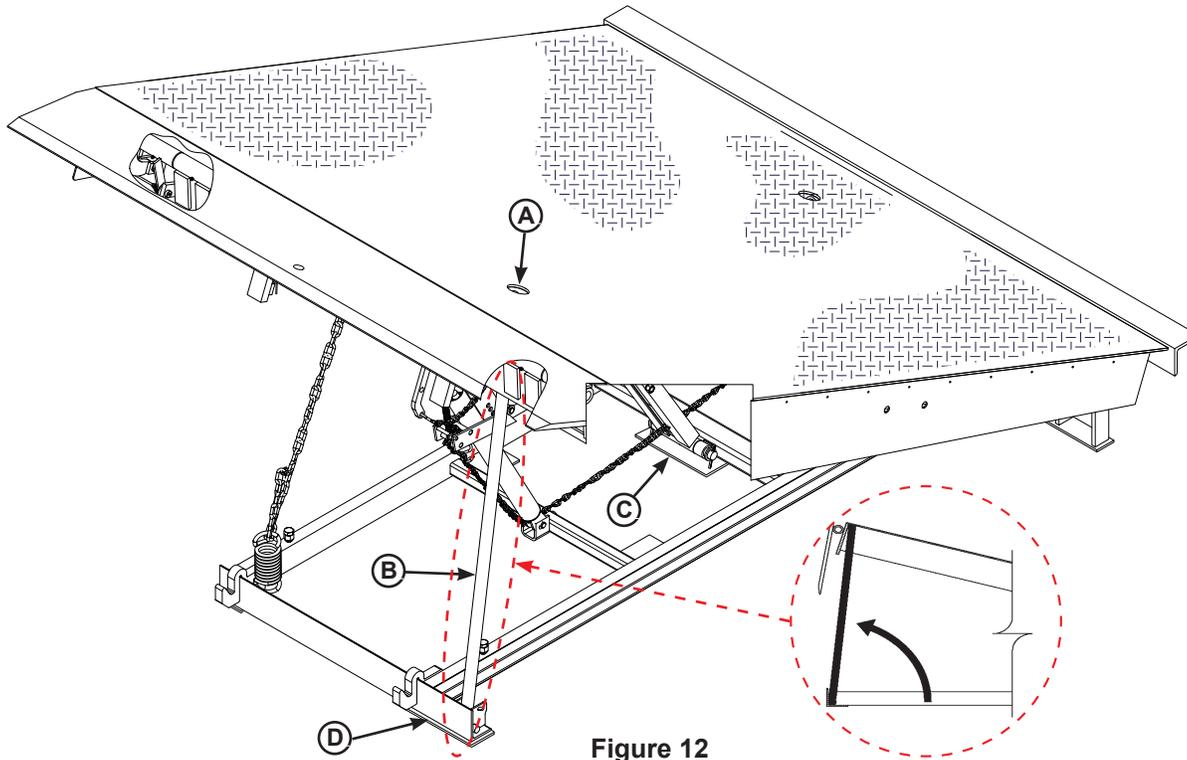
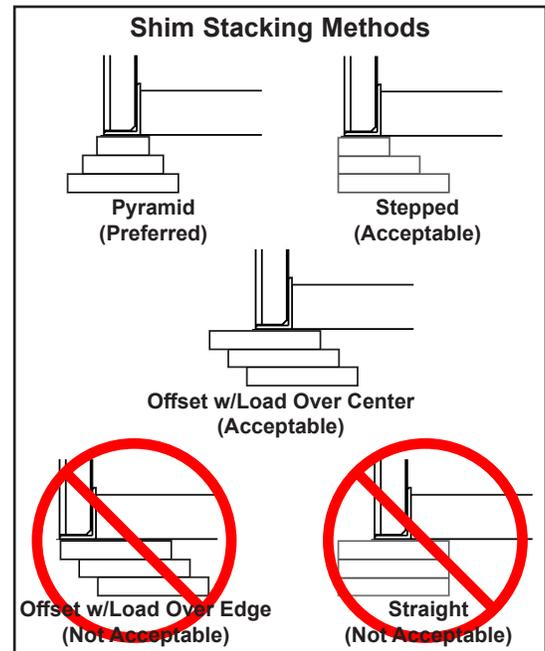

Figure 12
Figure 13
21. Shim and weld the maintenance prop (Figure 12):
22. Install shims under lift arm (**C**, Figure 12) at locations using an acceptable shimming method (see Figure 13). The lift arm pivot must be solidly shimmed the entire length of the lift arm pivot. Make sure the lift arm pivot is level from side-to-side.